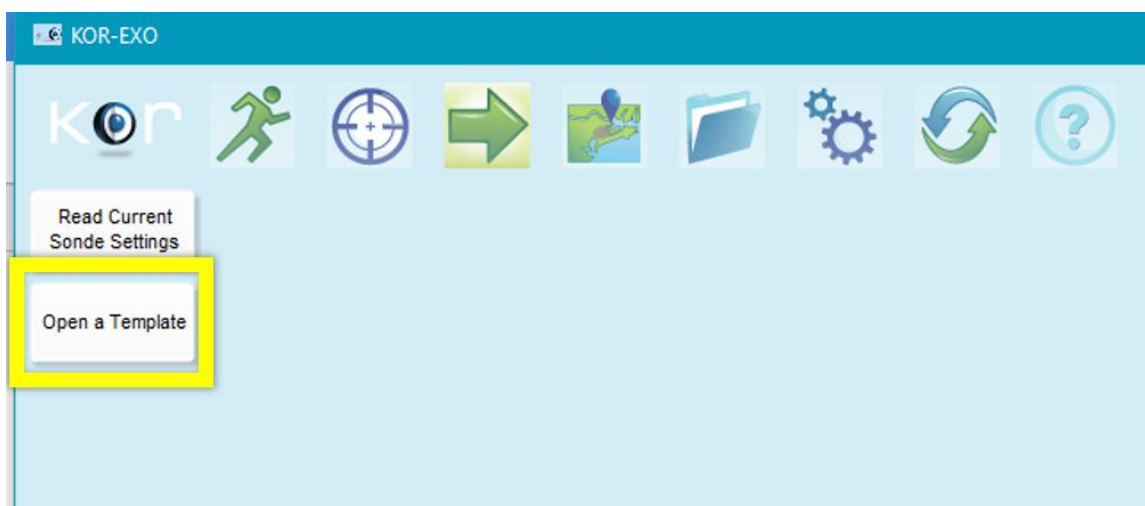

Figure 4. Select Open a Template
2. Then select **Open a Template** (Figure 4).